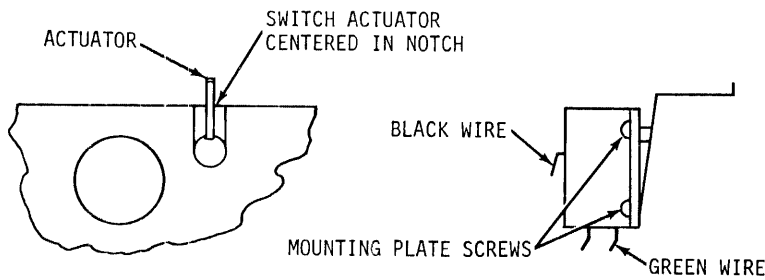

Figure 6-9. Hopper Empty Switch Adjustment
- c. Using a 1/16 Allen screwdriver, loosen the two screws holding the switch mounting plate, figure 6-9.